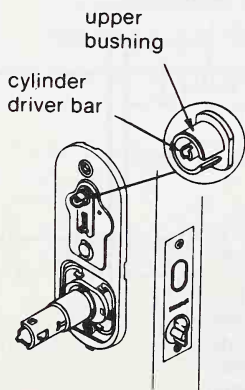

Fig. 18-46.
14. G85PD locksets require that the cylinder driver bar be flush with the end of the upper bushing (Fig. 18-46).